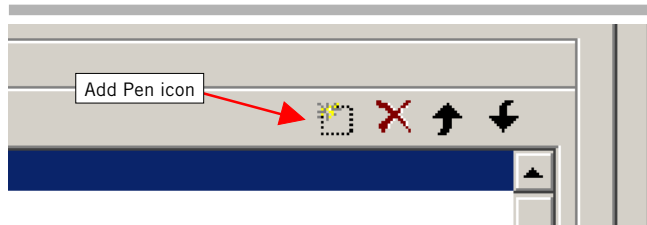

Fig 14.
6.6 Click the **Add Pen** icon (Fig 14).